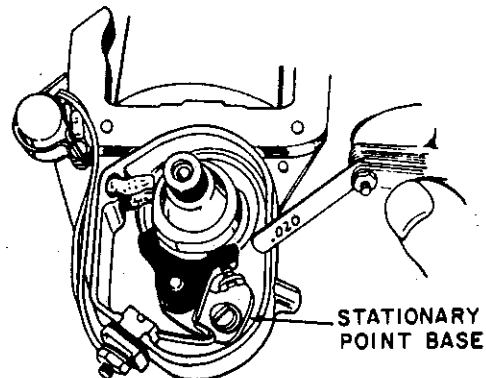

Figure 14
- D. Adjust breaker point gap at high side of cam and tighten screw. Refer to the table of specifications for correct gap, if not shown on dust cover. (See Figure 14.)